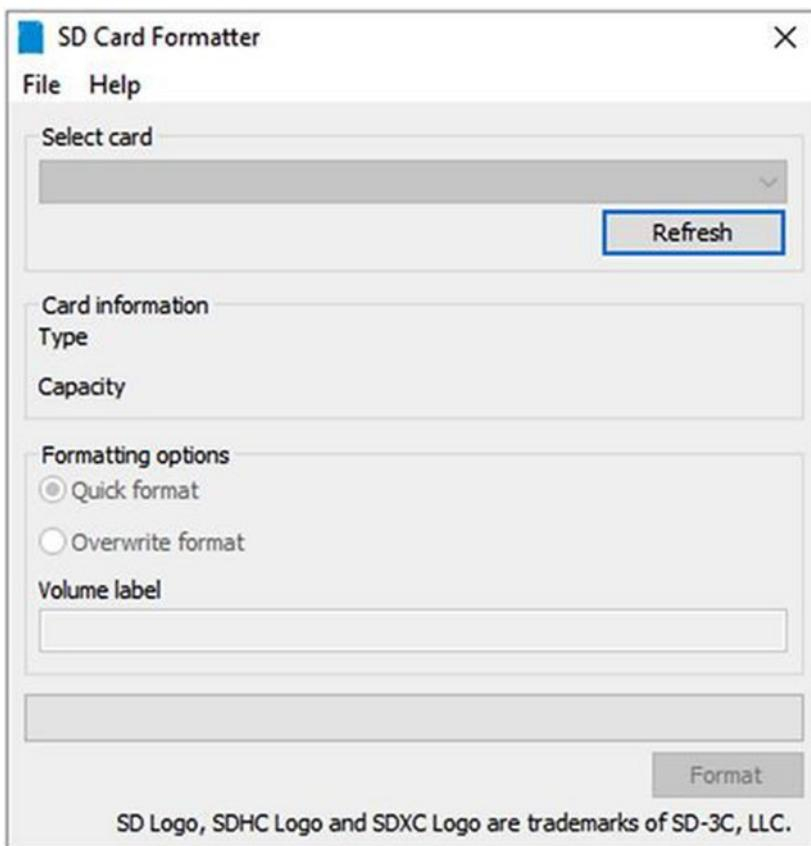

Figure 2-2. SD Card Formatter
7. If you have downloaded and installed SDFormatter, open it. You should see a dialog box similar to the one shown in Figure 2-2.